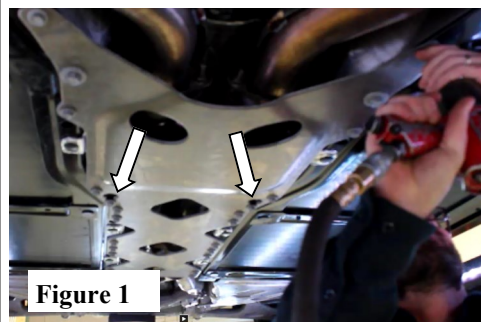

Figure 1
1. Loosen and remove bolts holding Tunnel Stiffening Brace using 13mm and 15mm sockets. *Note (2) keyhole-slots in the middle of the brace. Loosen (do not remove these bolts) and carefully slide brace rearwards and remove. Keep for reinstallation later.* (See Fig. 1)